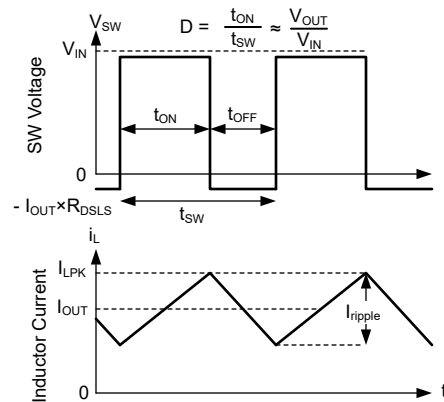

Figure 7-10. SW Voltage and Inductor Current Waveforms in Continuous Conduction Mode (CCM)
The following operating description of the TPSM656x0 refers to Section 7.2 and the waveforms in Figure 7-10. Both supply a regulated output voltage by turning on the internal high-side (HS) and low-side (LS) NMOS switches with varying duty cycle (D). During the HS switch on-time, the SW terminal voltage, V_{SW} , swings up to approximately V_{IN} , and the inductor current, i_L , increases with a linear slope. The HS switch is turned off by the control logic. During the HS switch off-time, t_{OFF} , the LS switch is turned on. Inductor current discharges through the LS switch, forcing V_{SW} to swing below ground by the voltage drop across the LS switch. The regulator loop adjusts the duty cycle to maintain a constant output voltage. D is defined by the on-time of the HS switch over the switching period: $D = T_{ON} / (T_{ON} + T_{OFF})$.